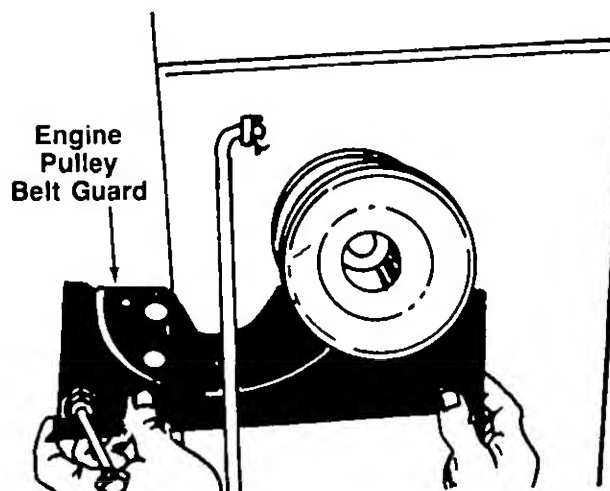

FIGURE 29.
6. Remove the engine pulley belt guard by slipping it back and to the right. See figure 29.